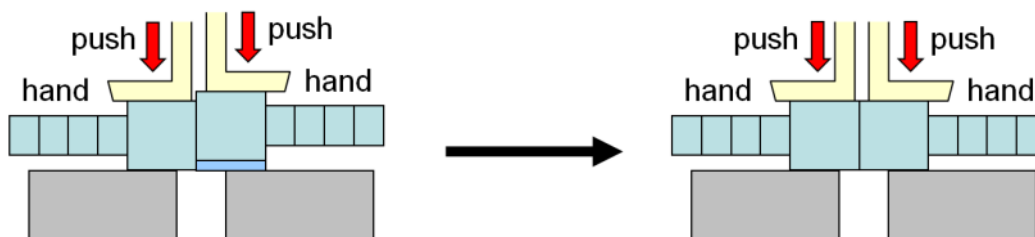

Figure 93 Recommended method to align knee to remove any twist and shear
Step 5: Check knee blocks are aligned to ensure knee is not twisted or in a shear condition before the test. Using two equal height blocks push down on the back of the knee for y direction and also on one side of the knee for x direction as shown in Figure 93. A straight edge can be used to double check alignment after any adjustment on two sides.